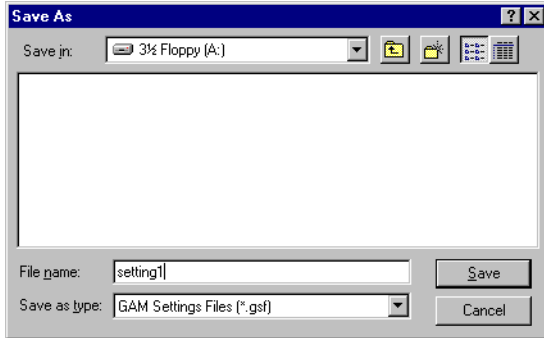

Figure 5-19. Save Settings to a File
1. Click Save Settings. A Save As dialog box is displayed (Figure 5-19).